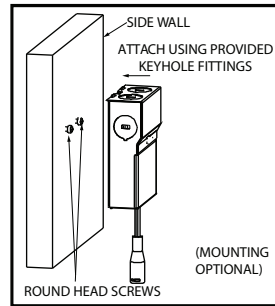

Figure 5 / Figura 5 / Schéma 5
- MUST follow local electric code** for rigid attachment and placement of the remote driver box. (Figure 5)